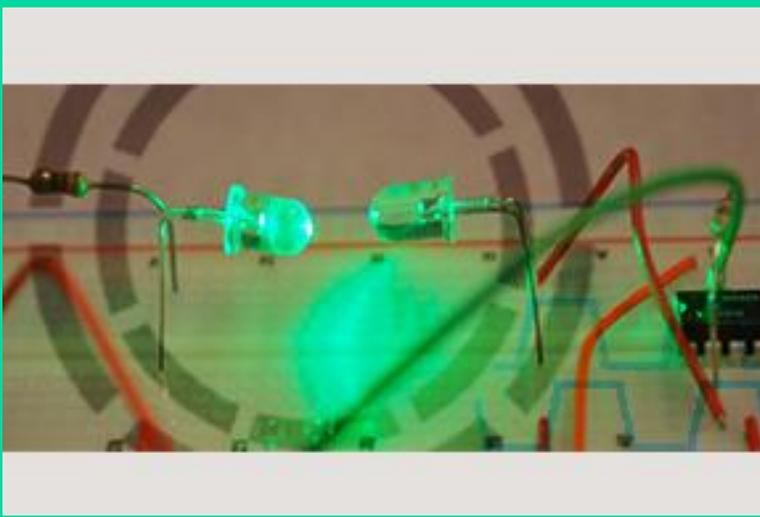

Figure 1 Example Light Frequency Meter
**Task 1:** Since the current-producing capabilities of a DAQ device's output channel is limited (e.g., the Digital Output channel of a myDAQ can only source up to 4 mA), instead of simply powering the LED directly from a DAQ device output channel, construct the transistor-based circuit shown in Figure 1 to toggle the LED. This will be your light transmission circuit.
**Task 3:** Create code that will generate a pulse train and output it using hardware timing on your DAQ device's AO line. Also have it read from a counter input and calculate frequency based on that reading. Wire your AO line to the "DAQ Output Signal" line from the circuit built from Figure 1. Wire the OpAmp output to your DAQ device's counter input.